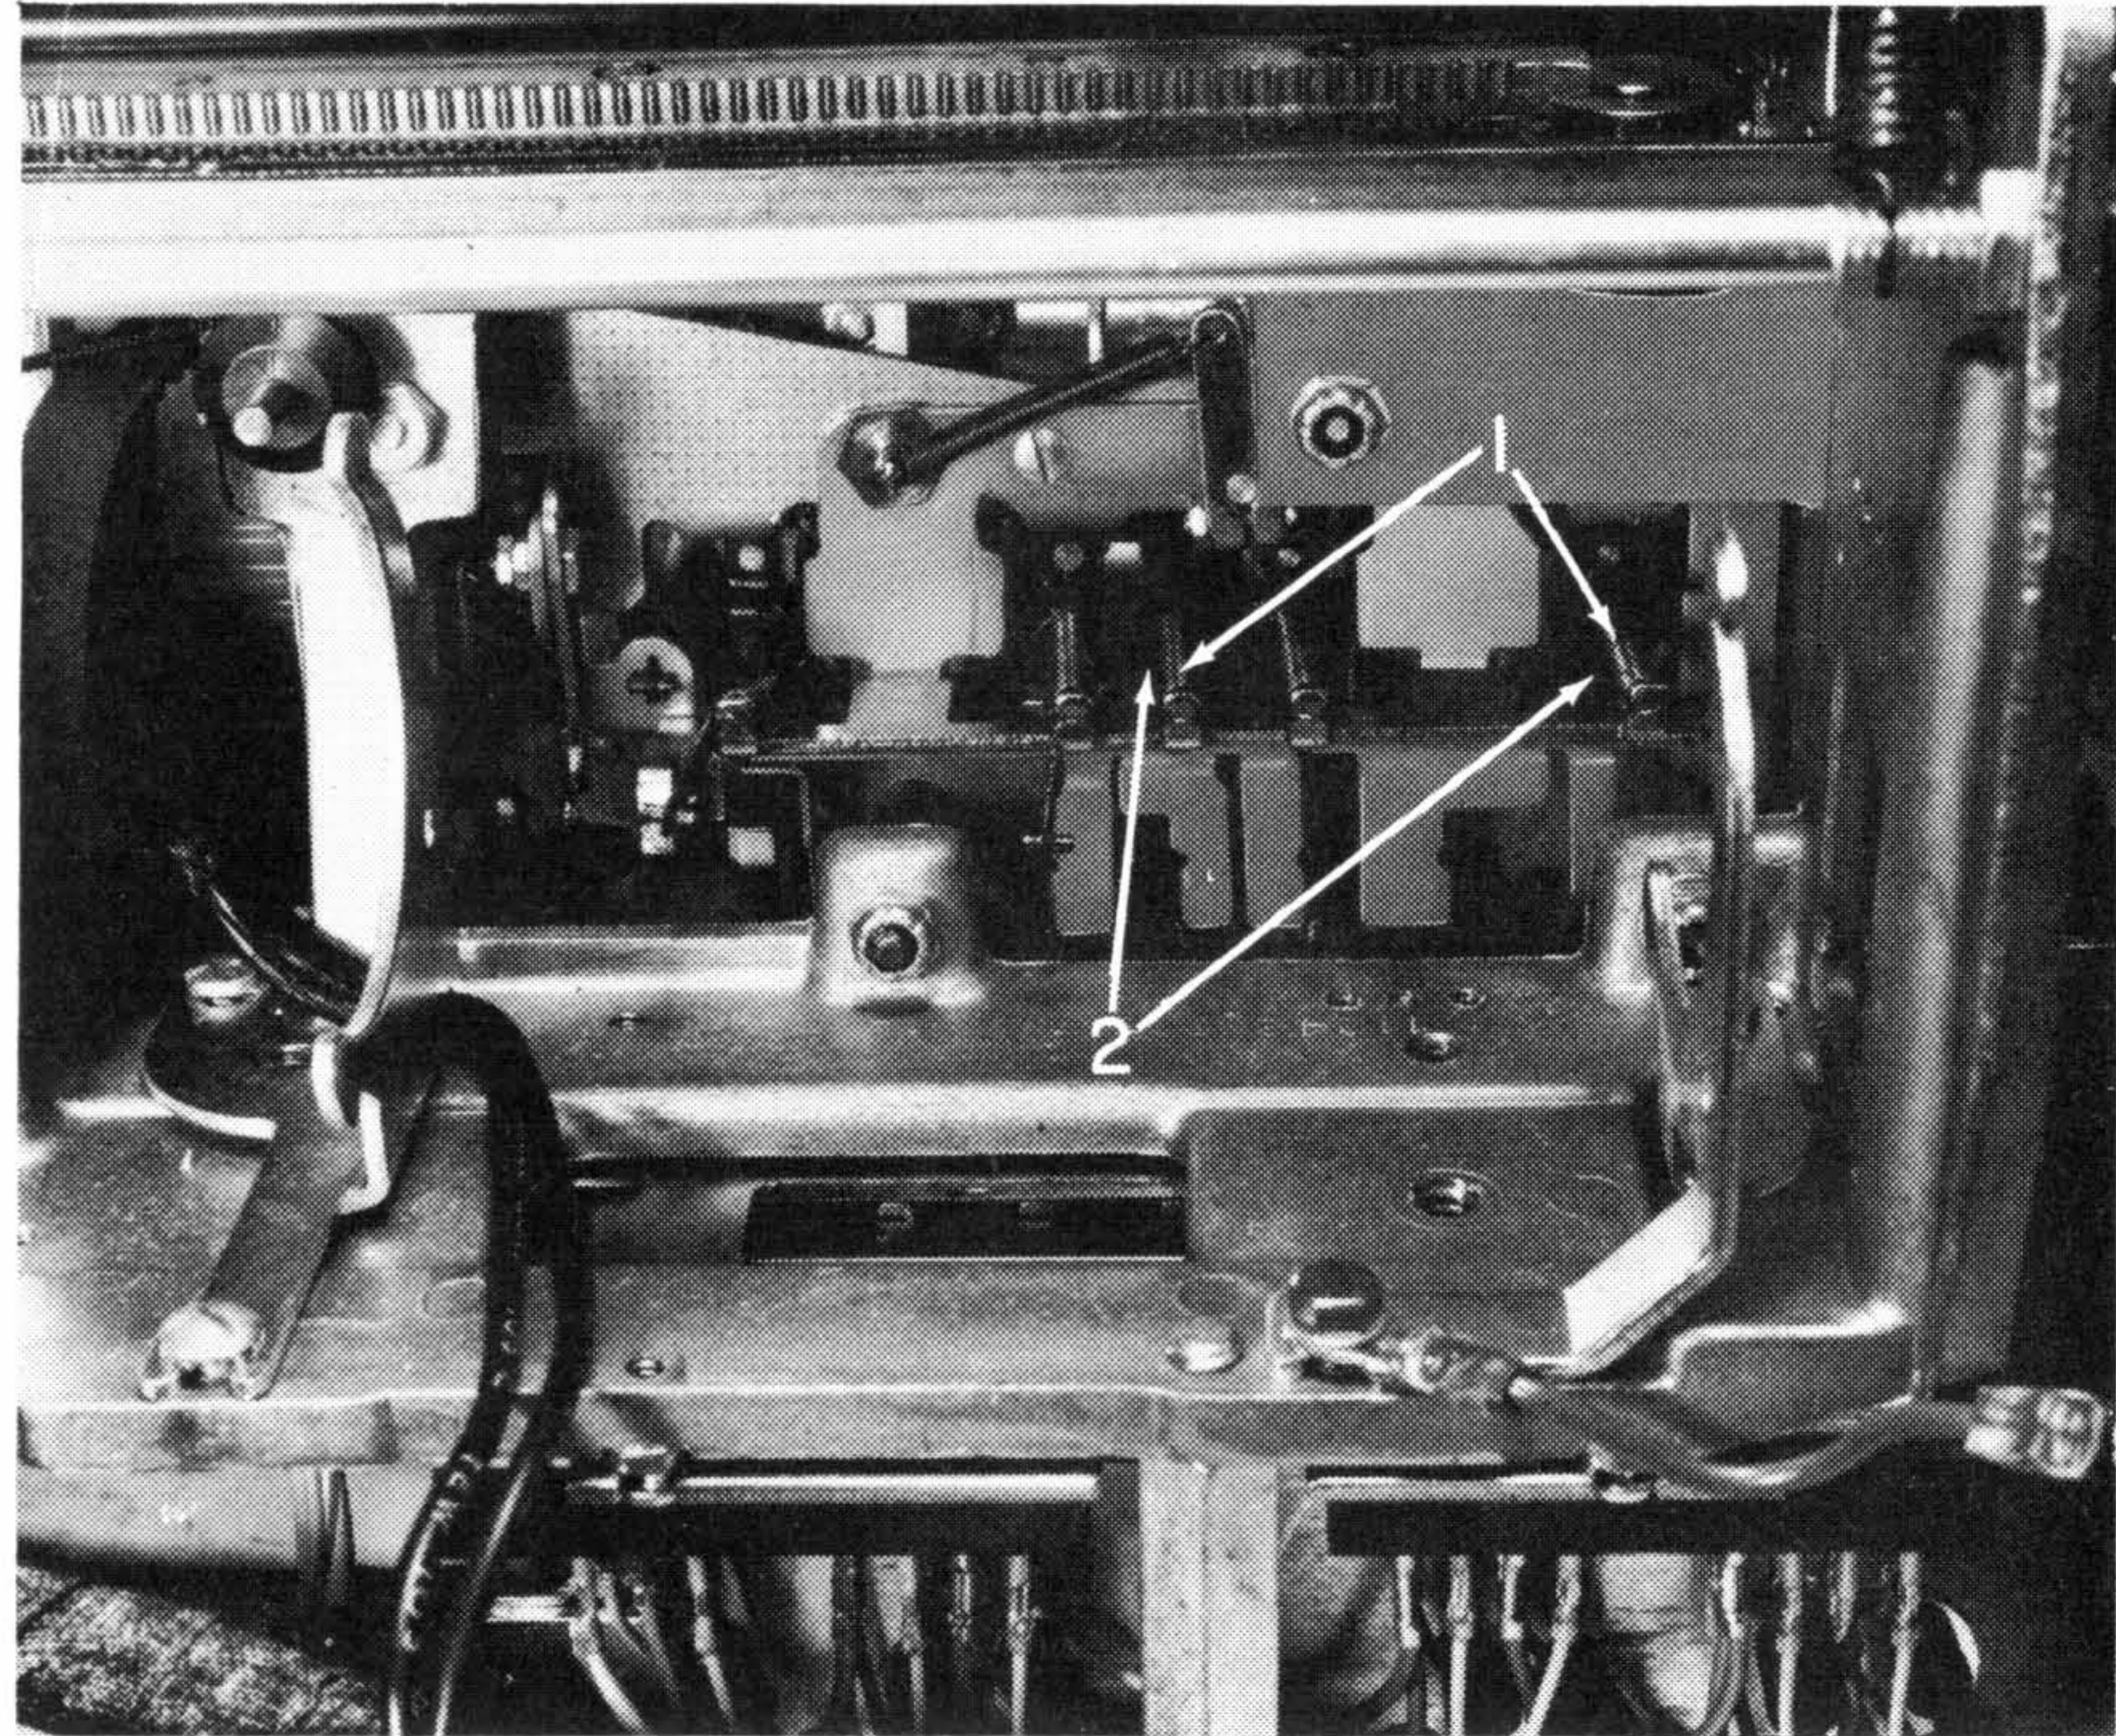

Figure 26. Tilt Selection Differential Removal
6. Remove the tilt-latch springs (#1, Figure 26).
7. Remove the tilt links (#2, Figure 26).